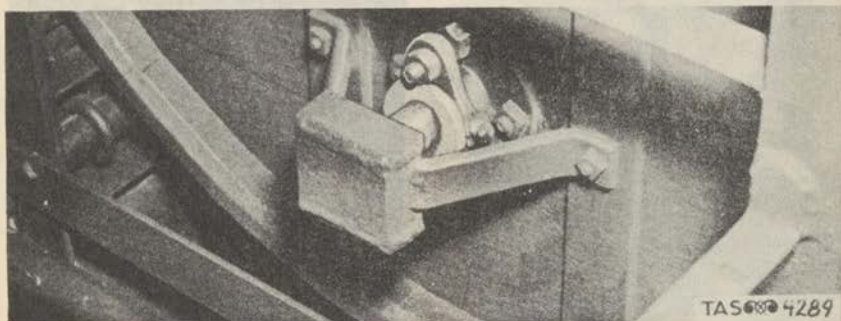

Figure 252. Agitator Shaft Packing.
(4) Agitator. The only parts of the agitator requiring lubrication are the two packing boxes located at the ends of the tank. To keep the packing in good condition, grease should be forced in through the grease fittings once each day the sprayer is operated. (Fig. 252)
c. Agitator shaft packing. The packing nut on the end of the agitator shaft must be kept tight enough to prevent play and leakage. (Fig. 252)